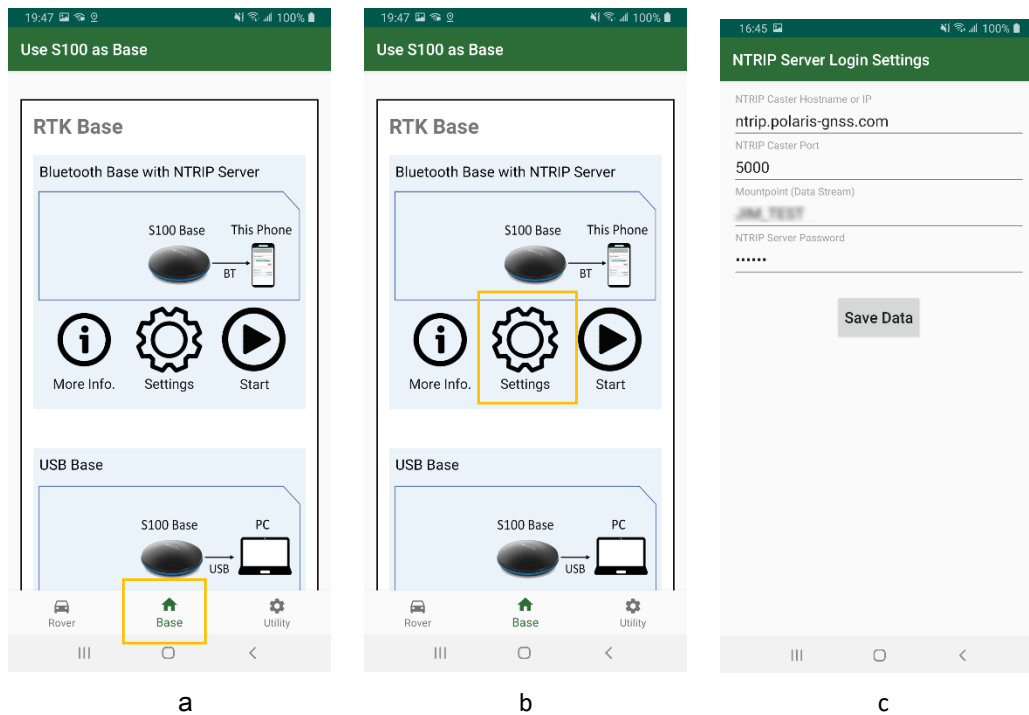

Figure A-6
1. Click Base tab. See Figure A-6 a
2. Click Settings (Figure A-6 b) and configure NTRIP log-in information (Figure A-6 c).